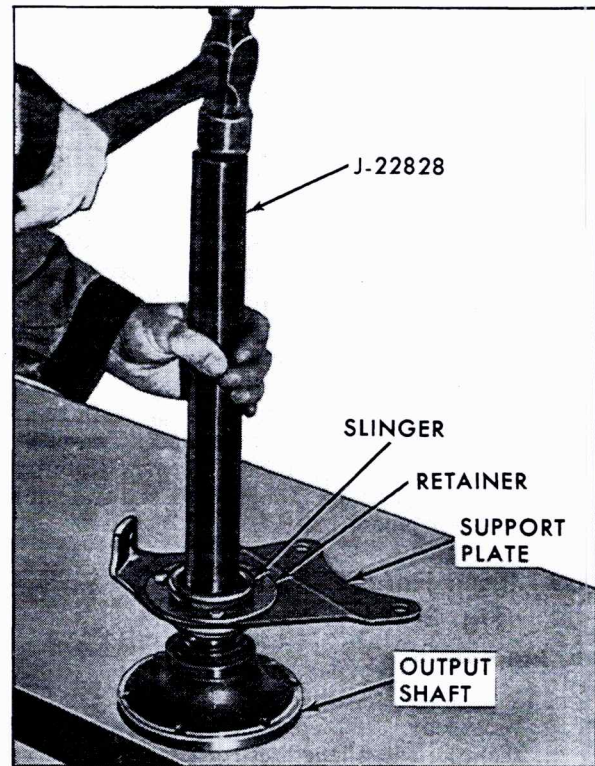

Fig. 3-74 Installing Right Hand Output Shaft Support Slinger
5. Using a hammer and Bearing Installer, J-22828, install slinger as shown in Fig. 3-74.